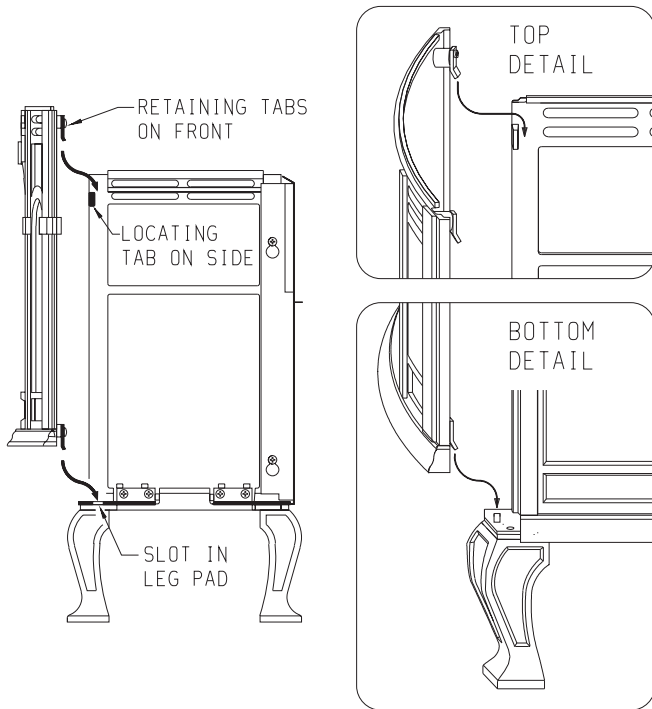

Figure 10
- D. Assembly of front by attaching retaining tabs and placing front on unit (Figure 10).
11. Refer to Figure 10, attach casting front to casting by using the (4) retaining tabs on the casting front. The (2) top, retaining tabs on the casting front will be placed behind the (2) top, locator tabs on the front of the casting sides. The (2) bottom, retaining tabs will be inserted into the (2) 9/16" slots on the front, leg pads. Place the top, retaining tabs behind the top, locator tabs as you pivot inward the bottom of the casting front in order to insert the bottom, retaining tabs into the slots.